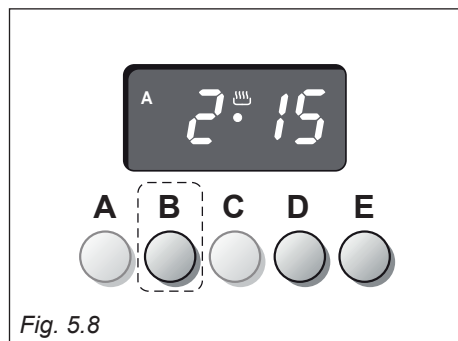

Fig. 5.8
1. Set the cooking time by pressing button "B" and then "E" to move forward or "D" to move back if you have gone beyond the required time (fig. 5.8).